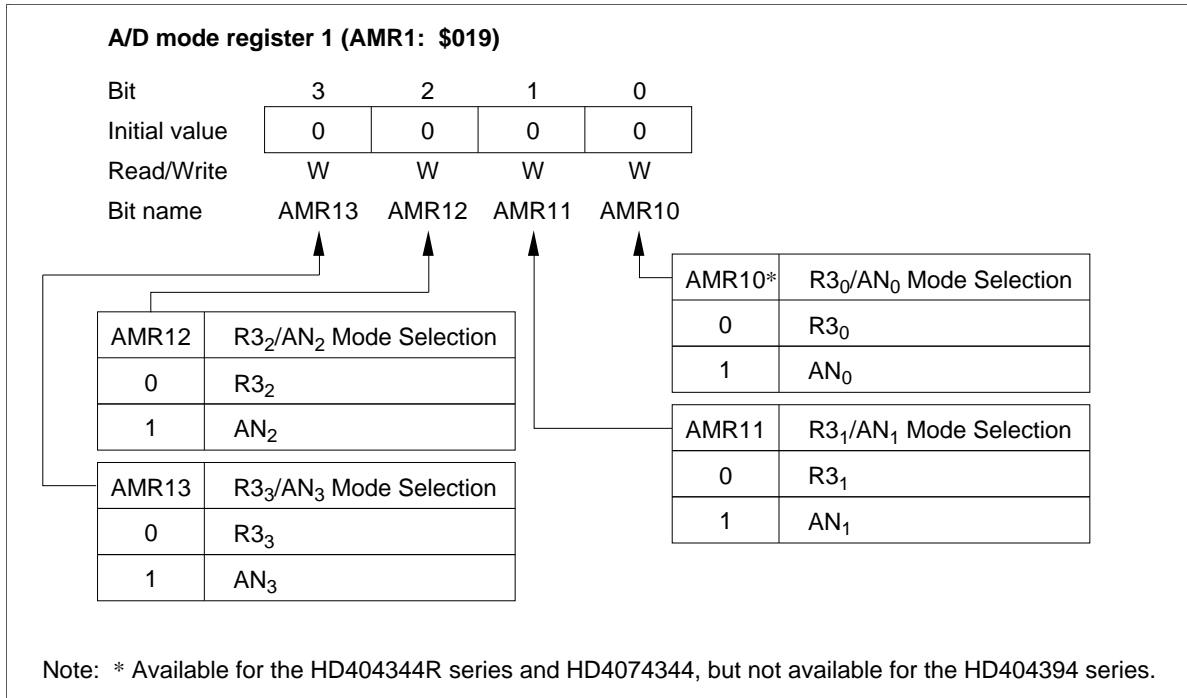

Figure 53 A/D Mode Register 1 (AMR1)
- A/D mode register 1 (AMR1: \$019) is used to select digital or analog ports (figure 53).